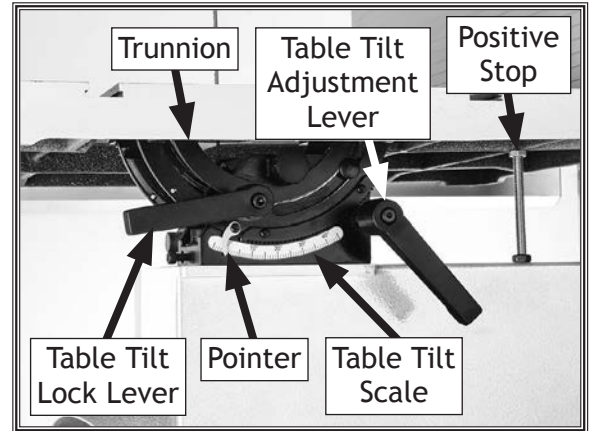

Figure 73. Table tilt controls.
The table can be tilted from 5° left-45° right to make beveled cuts. A table tilt scale with pointer is provided on the trunnion, and a hex bolt serves as a positive stop for quickly returning the table back to 0° from a right-tilt setting (see **Figure 73**).
2. Loosen table tilt lock lever (see **Figure 73**).